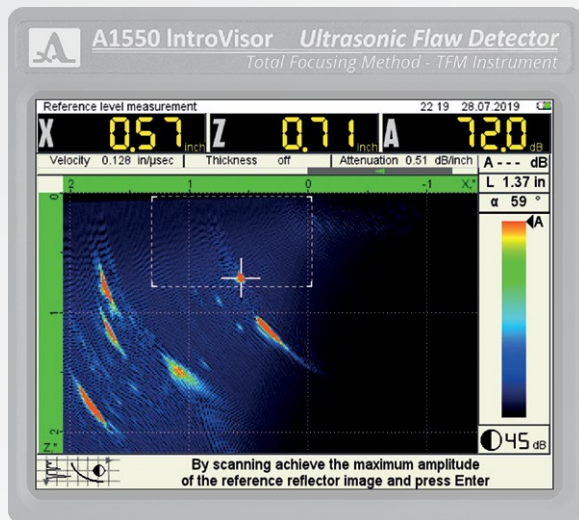

FIGURE 54
3) The following screen will be displayed in Figure 54